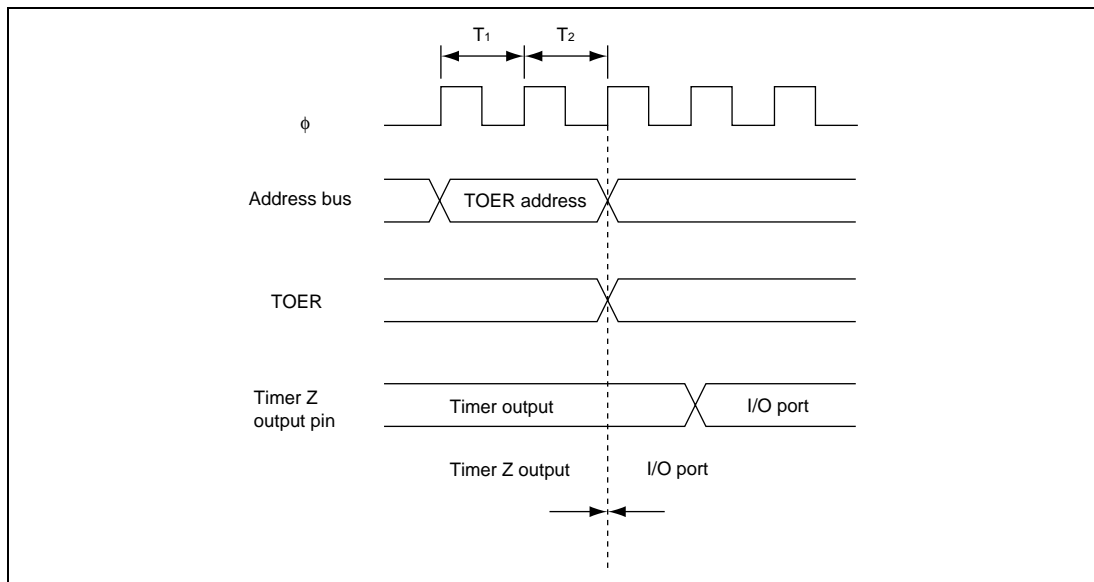

Figure 13.44 Example of Output Disable Timing of Timer Z by Writing to TOER
1. Output Disable/Enable Timing of Timer Z by TOER: Setting the master enable bit in TOER to 1 disables the output of timer Z. By setting the PCR and PDR of the corresponding I/O port beforehand, any value can be output. Figure 13.44 shows the timing to enable or disable the output of timer Z by TOER.